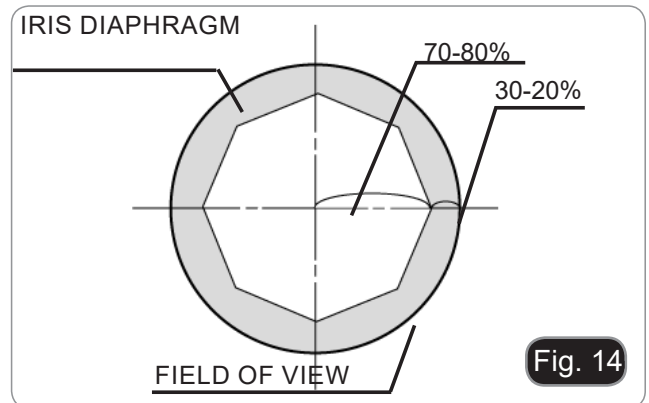

Fig. 14
- With low contrast specimens set the numerical aperture to about 70%-80% of the objective's N.A. If necessary, remove the eyepiece and, looking into empty sleeve, adjust the condenser's diaphragm in order to obtain an image like the one in Fig. 14